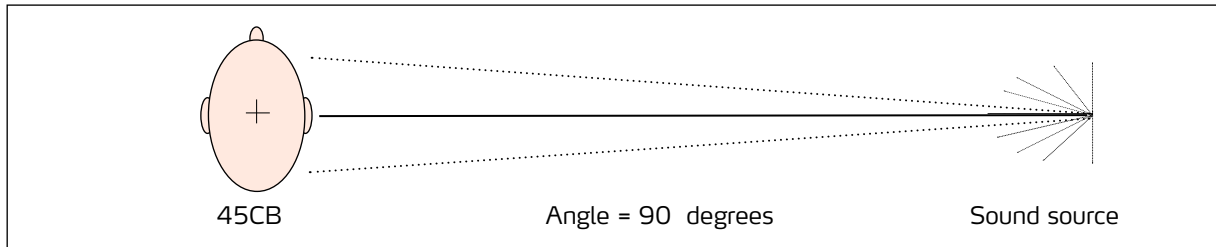
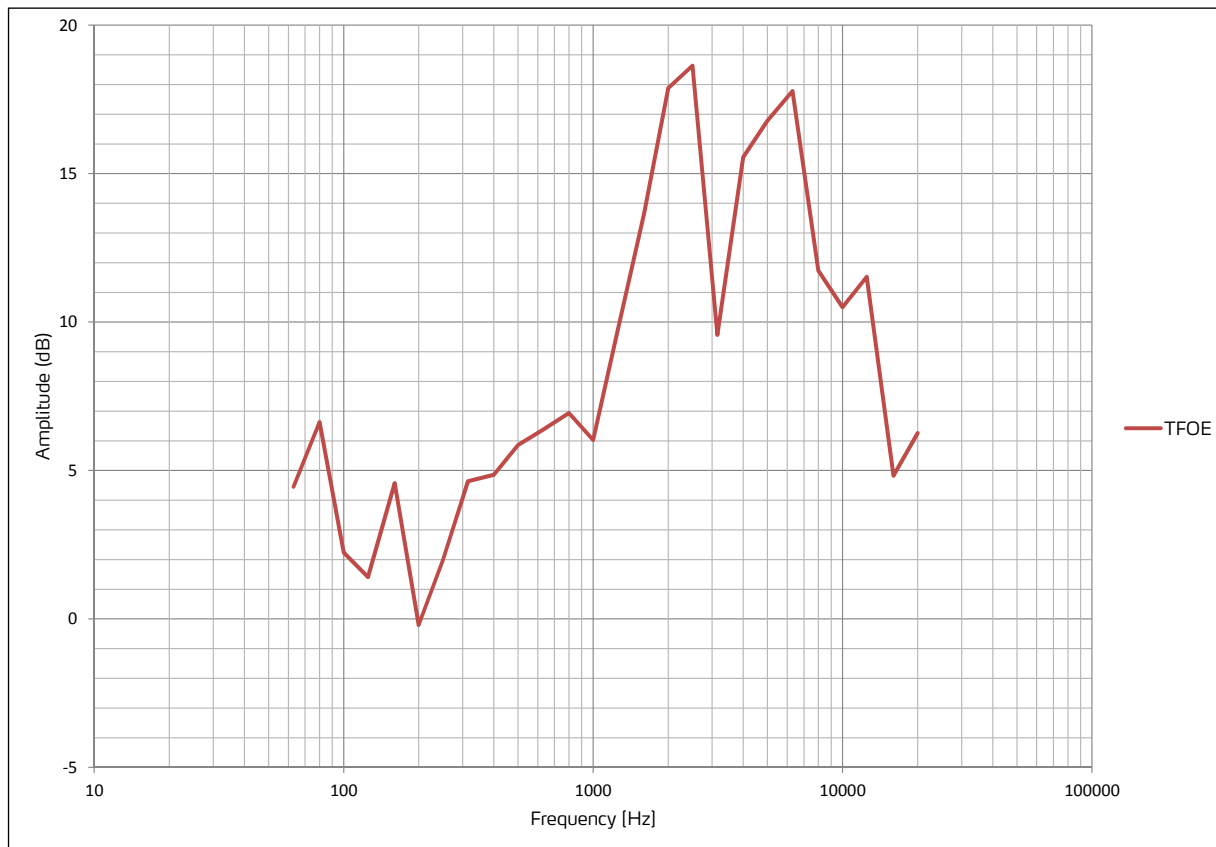

Fig. 30. Top view of the 45CB positioned for measuring normal incidence.
Fig. 31. Typical transfer function of open ear at 170 dB for the 45CB, normal incidence.
- The **Normal Incidence** TFOE for the 45CB at 170 dB is illustrated by Fig. 30 and Fig. 31. The 45CB is at a 90° angle to the sound source so the sound wave reaches the microphone diaphragm directly.